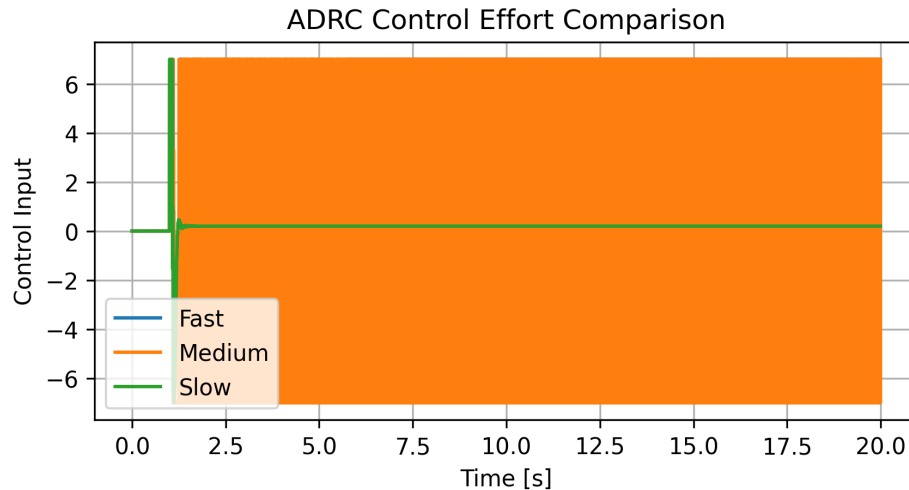

Figure 10.2: Control effort comparison across ADRC bandwidths.
3. Examine Figure 10.2 to understand the variation in control effort and saturation utilisation.